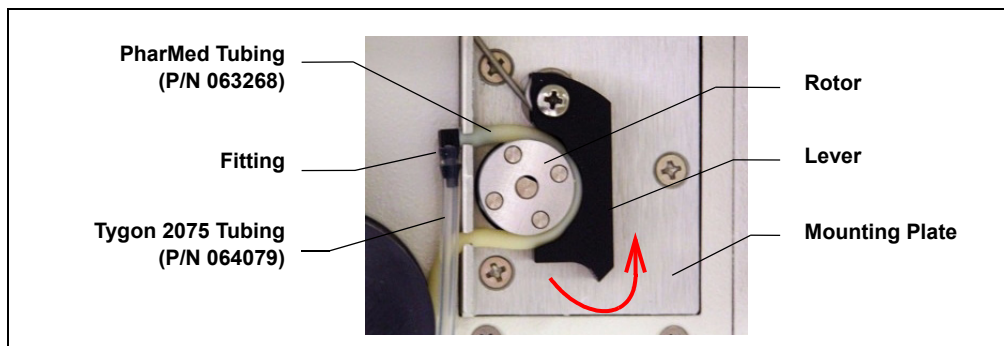

Figure 9-7. Peristaltic Pump for Seal Wash System
3. Remove the old tubing from the peristaltic pump (see Figure 9-7) as follows: